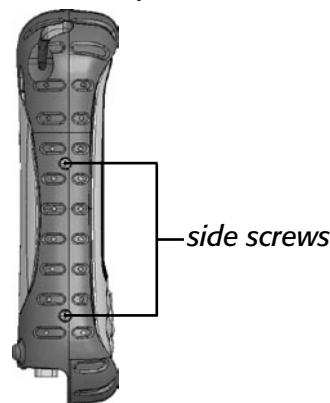

Figure 1: Side screws on the body molding
3. Remove the four side screws on the body molding of the Field PC (see Figure 1) using a #1 Phillips-head screwdriver.